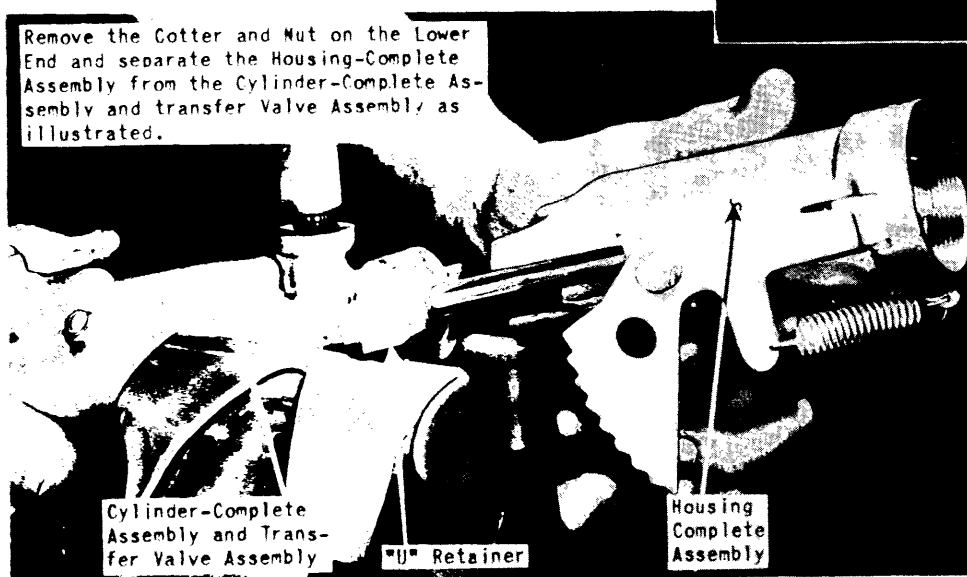

Figure 200 - Removing Housing Assembly from Cylinder Assembly
(4) Turn the cylinder around in the vise so that the lower end is up and remove the cotter and nut on this end. After the nut has been removed, the two halves of the unit can be pulled apart. (See figure 200.) The lower half is the "Housing-Complete Assembly" containing the parking spring and ratchet. The upper half is the "Cylinder-Complete Assembly" and "Transfer Valve Assembly" containing all parts necessary for the hydraulic operation of the unit.